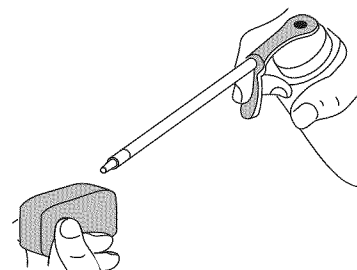

Fig. 21
4. Apply enough clean SAE 30 motor oil to lightly coat the filter (Fig. 21).